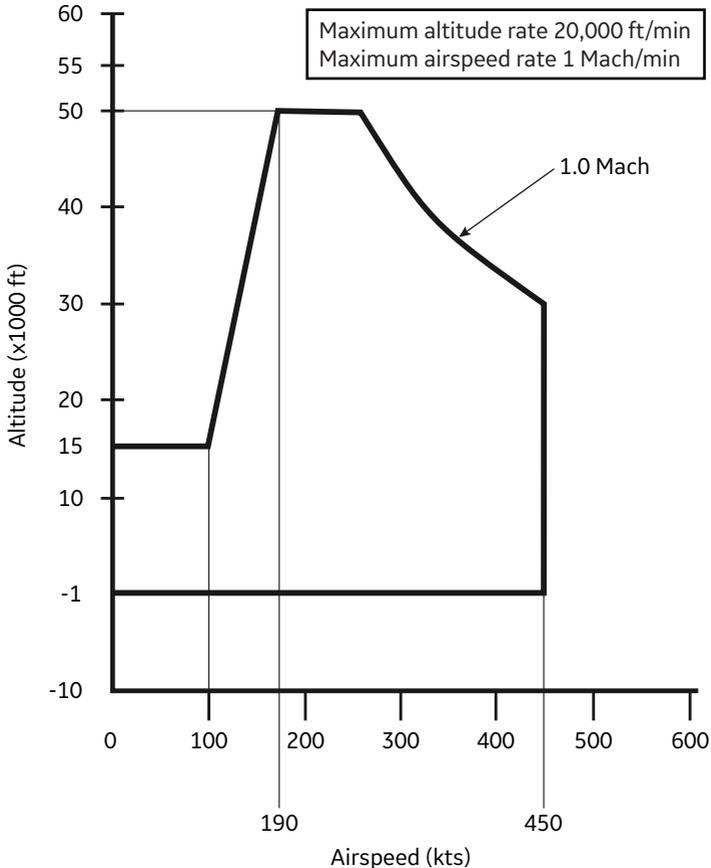

Figure 7-1: ARINC 565 Operating Limits
1. ARINC 565 operating limits are enabled by setting ARINC LIMITS ON and implemented as shown in Figure 7-1.